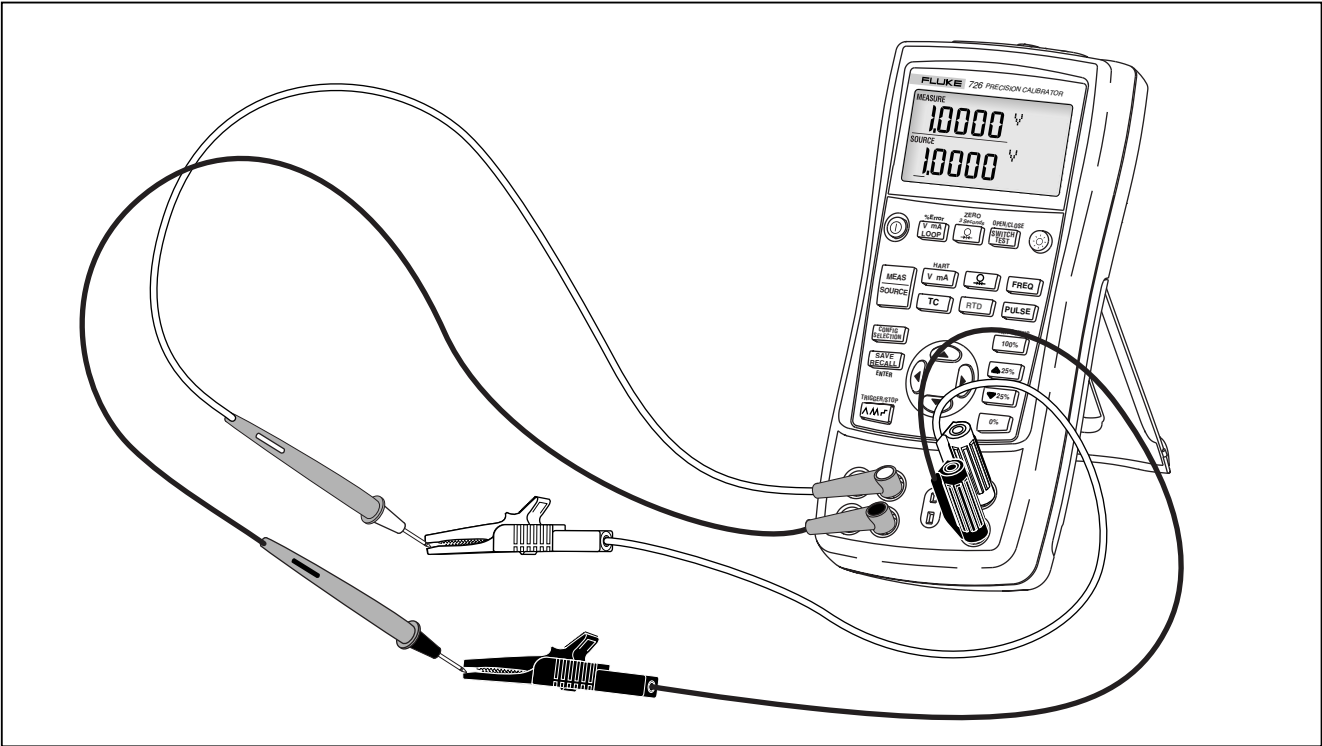

Figure 6. Voltage-to-Voltage Test
1. Connect the Calibrator's voltage output to its voltage input as shown in Figure 6.